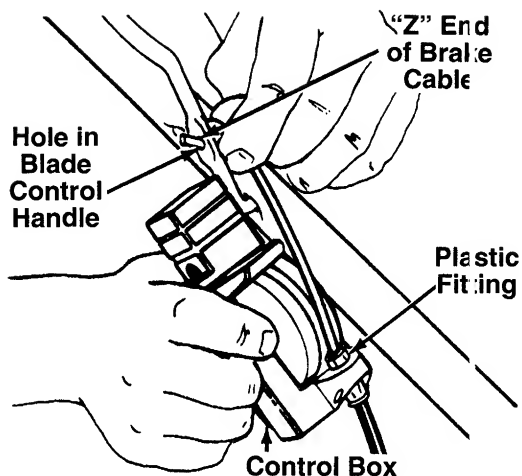

FIGURE 3.
4. Route the brake cable above the handle. Insert the "Z" end of the brake cable into the control box as shown in figure 3. Push the plastic fitting until it locks into the control box.
← See figures 3 and 4.